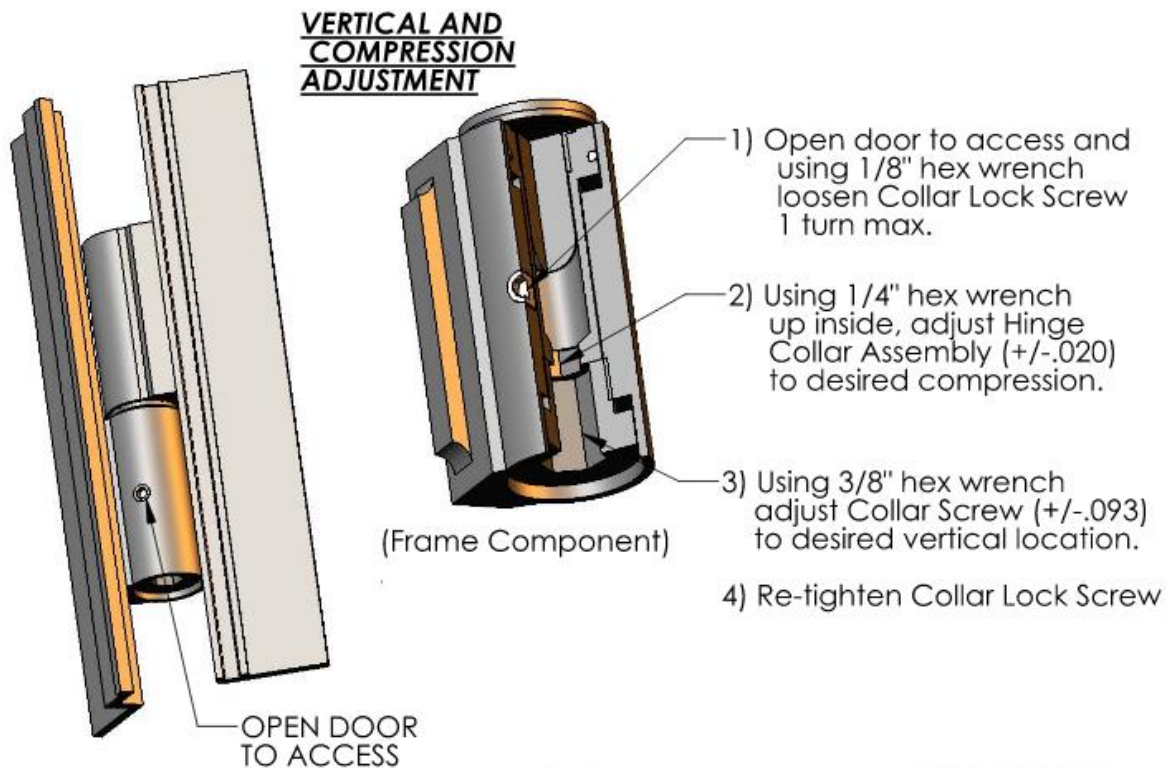

Figure 24
- For vertical or compression adjustment follow the instructions in Figure 24 below.